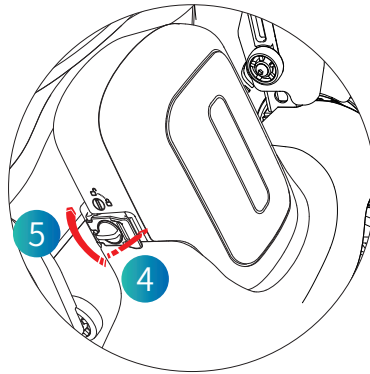

Figure 4.6.1.2.3
(3) In Step 3, manually close the battery left buckle and rotate the left knob of the battery box with the left knob to the locked position. (As shown on Figure 4.6.1.2.3)